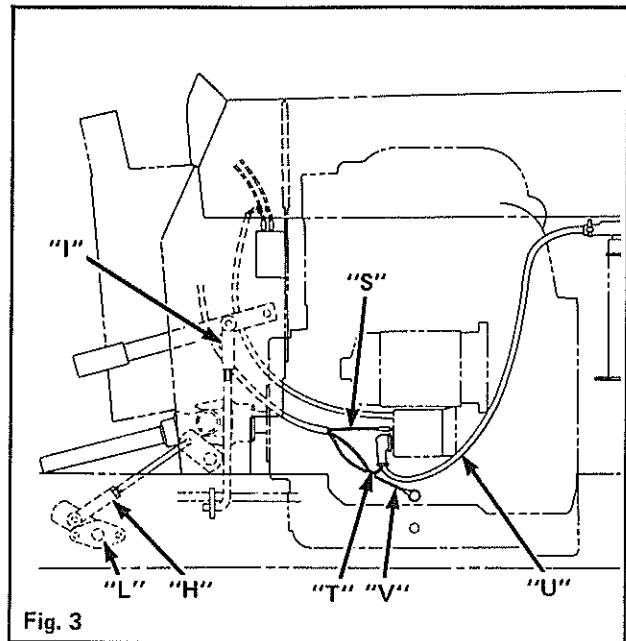

Fig. 3
16. The (4) engine cradle mounting screws.
18. Brake rod (H) Fig. 3 from center shaft.
19. PTO rod (I) Fig. 3 inside instrument panel.
1. Position engine with drive shaft into frame. Make sure drive shaft is over center cross shaft (L) Fig. 3 of frame.
7. Reconnect hydro control rod to hydro arm, brake rod (H) Fig. 3 to center cross shaft and PTO rod (I) to PTO hand control.
- B. Gray wire from wiring harness to engine oil pressure switch (Q) L.H. side.
- C. Yellow with red stripe from harness to fuel solenoid (R) L.H. side.
- D. Red with yellow stripe to back of starter solenoid (S) Fig. 3 R.H. side.
- E. Red wire (T) of harness and positive red wire of battery (U) to screw terminal on starter.
- F. Secure black lead (V) of harness to R.H. engine cradle with (2) star washers and screw.
26. Connect RED lead (V) Fig. 3 from starter to POSITIVE post.